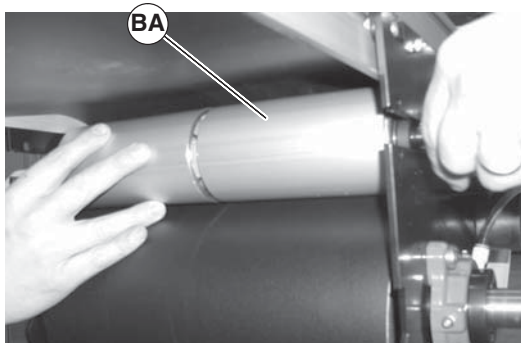

Figure 27
10. Slide out tensioning roller (Figure 27, item BA).